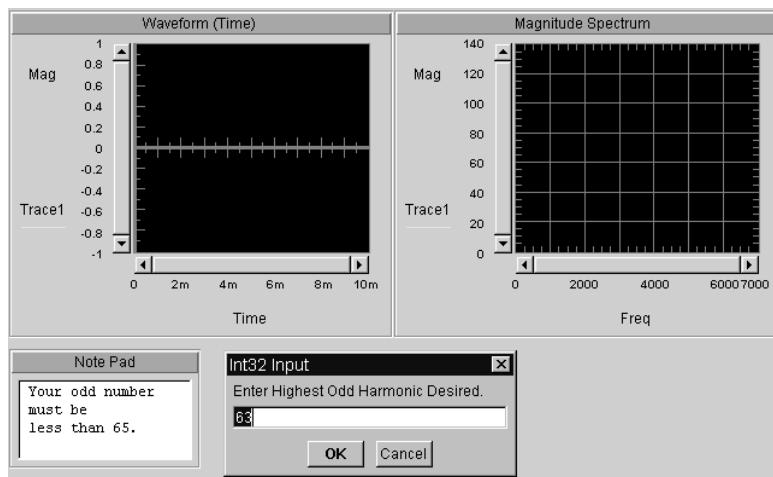

Figure 18.17 – LAB 18.3 panel dialog box before running
30. Run your program; move your Int32 object so it is beside the Note Pad; select a value for the harmonic range. The Int32 Input Dialog Box will appear. See Figure 18.17.